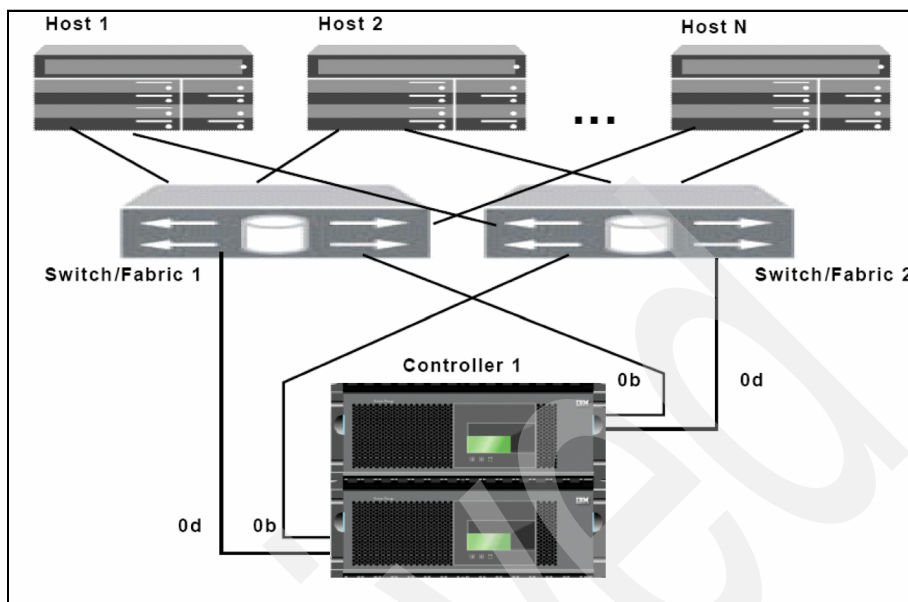

Figure 6-18 Dual fabric: two fabrics per storage controller single\_image topology
- ▶ *Dual fabric*: Each server is attached to two physically independent fabrics that are connected to the N series storage controllers, which we illustrate in Figure 6-18 on page 159.
Figure 6-18 on page 159 shows the dual fabric topology.
Our environment consists of an IBM N series 5200-G20, Linux server, and an IP Camera. We are working with multipath, and the FCP topology is a dual fabric, Figure 6-18 on page 159, CFMODE that is configured as a single\_image, Figure 6-22 on page 196. SnapDrive is not supported when using multipath at this time. Refer to the interoperability matrix: